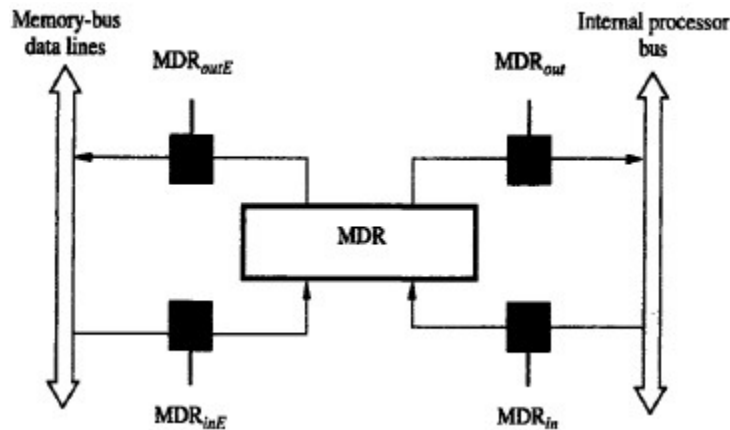

Figure 3.4 Connection and control signal for register MDR.
Figure 3.4 input and output gating for one register
- The MDR register has 4 control-signals (Figure 3.4):